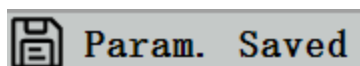

Figure 3-1
Use the back button to operate the camera functions and adjust the camera parameters. After modifying the parameters, exit the interface to save. In the upper left corner of the screen, "Param. saved " appears. This is shown in Figure 3-1.
2.The screen shows "Take Successfully", which means that the picture has been taken successfully. This is shown in Figure 3-1.